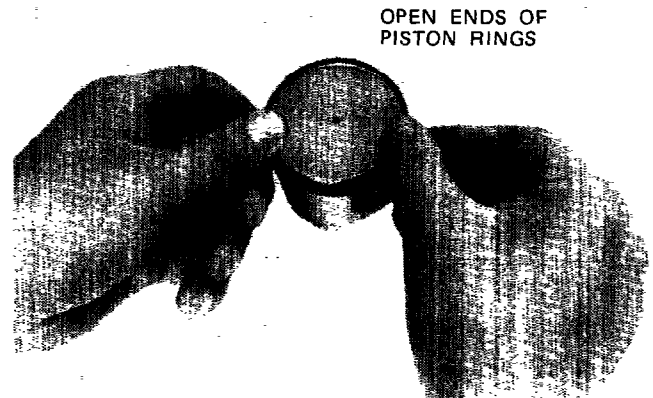

Fig. 12-11
- 1) If a ring expander is not available, set the ring joint at the first land of the piston, as shown in Fig. 12-11 so that the ring can be slid into its groove.